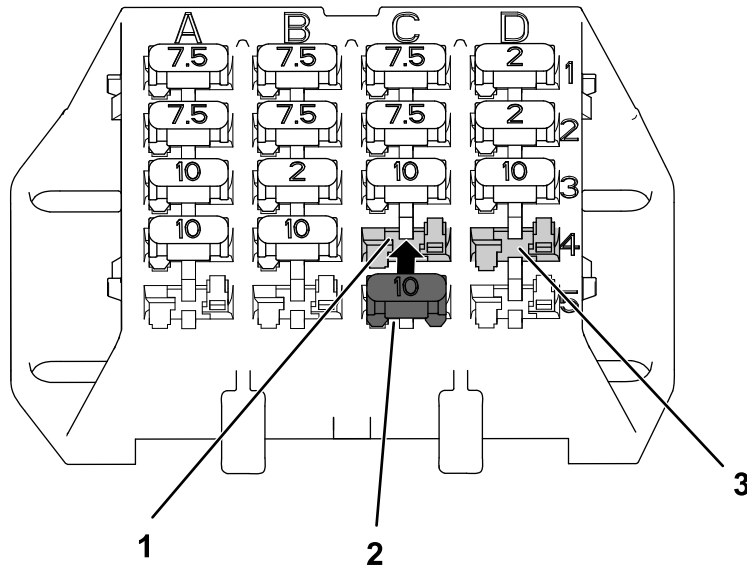

Figure 13
1. If you have an older machine install the fuse into the C4 slot in the fuse box (Figure 13).